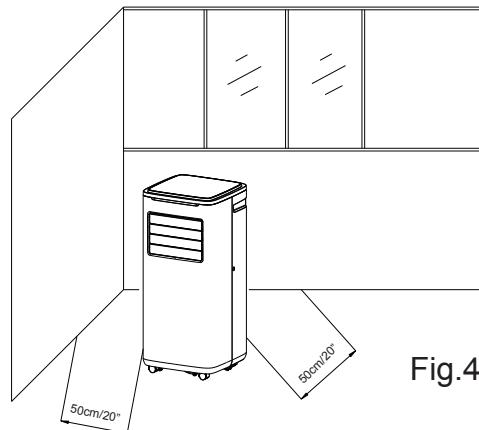

Fig.4
1) Move the machine with installed pipe and fittings to the window, and the distance between the body and walls or other objects shall be least 50cm/20" (as shown in Fig.4).